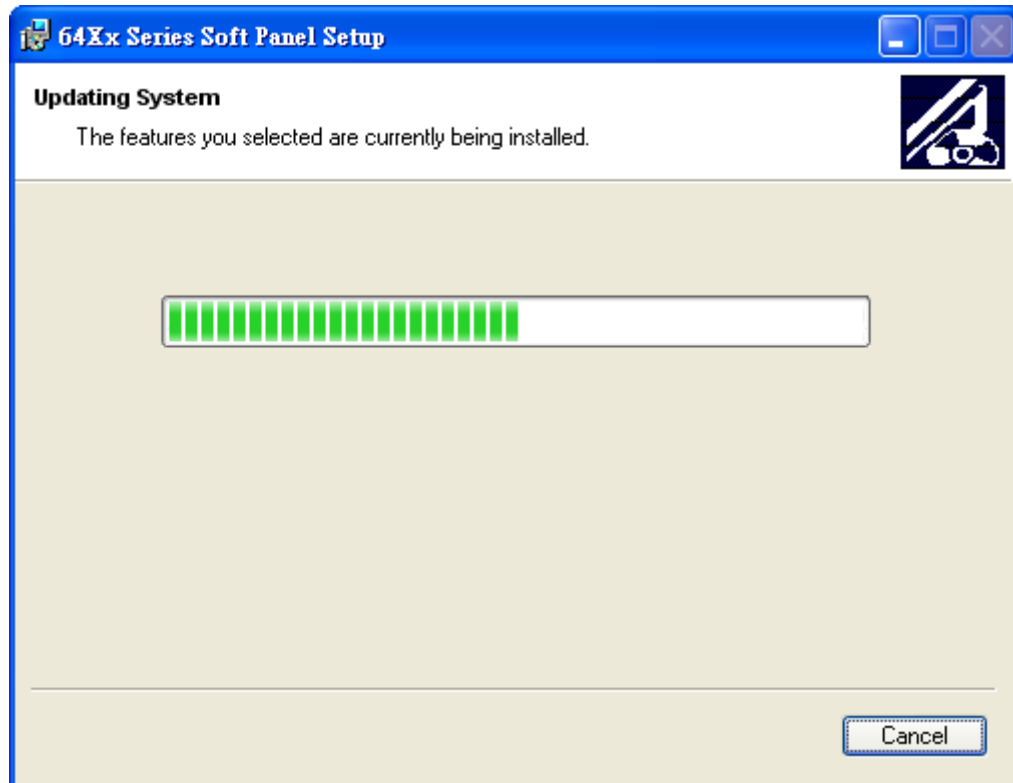

Figure 2-4 Installation Proceeding Window
- Click **Next>** to proceed with the installation as Figure 2-4 ◦